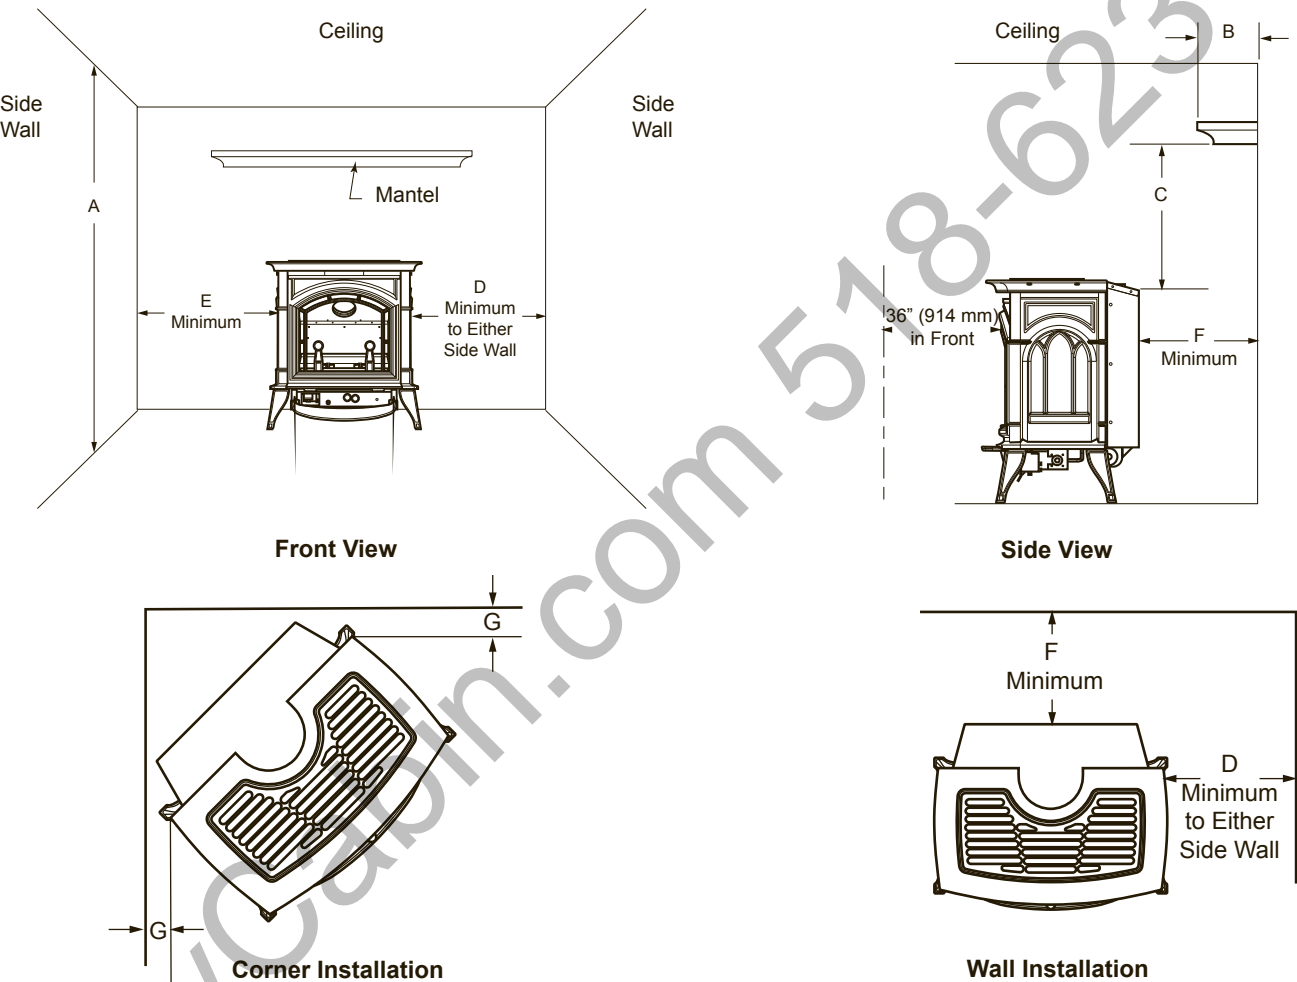

Figure 4 - Minimum Clearances to Walls and Ceiling
- Minimum clearances to combustibles, side-wall, ceiling, woodwork, and windows **must be maintained**. *Page 8, Figure 4*
The dimensions shown in *Figures 4 and 5* are minimum clearances to maintain in installing this heater. Left and right clearances are determined when facing the front of the heater.